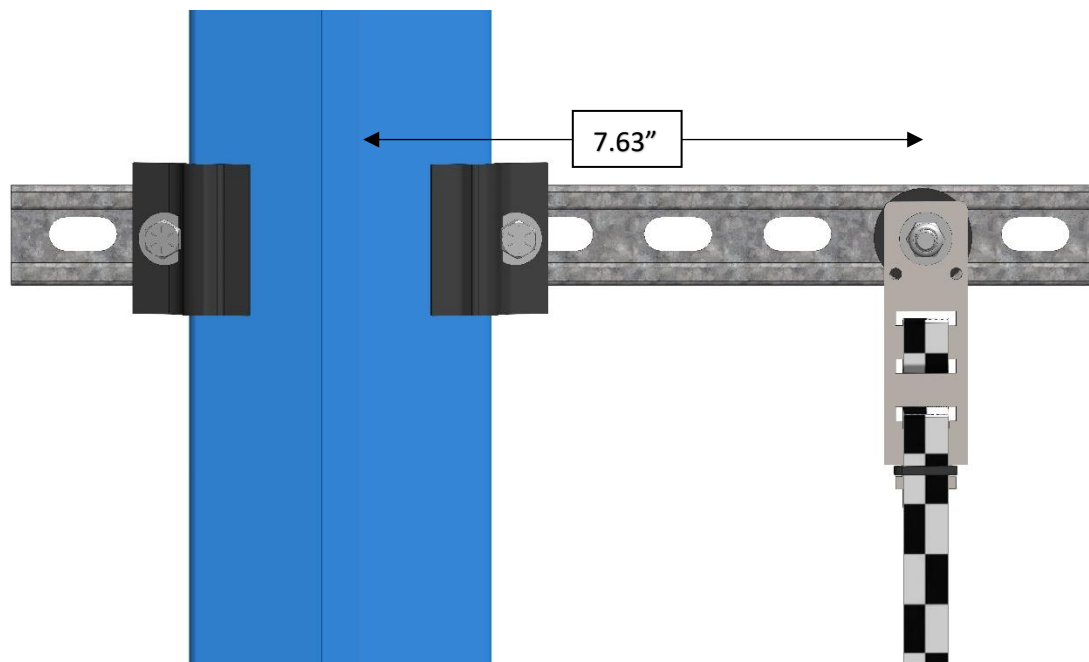

Figure 9: Upper tape Unistrut Installation
| Figure 9: Upper tape Unistrut Installation | 11 |
- Affix an 18" length of Unistrut to the top of guide rail as shown in figure 9.
- Position the Upper Tape Mount Assembly $7\frac{5}{8}"$ from the surface of the guide rail to the center of the $\frac{3}{8}"$ bolt as shown in figure 9.